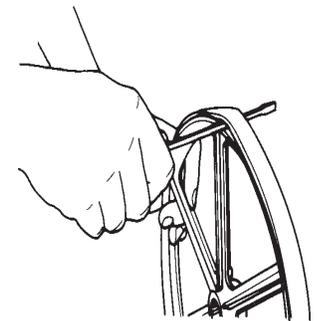

Fig. 14
10. Once the tire is on the wheel, wedge a screwdriver between the tire and wheel, as illustrated in Figure 14. (The wheel is still clamped in the vise.)